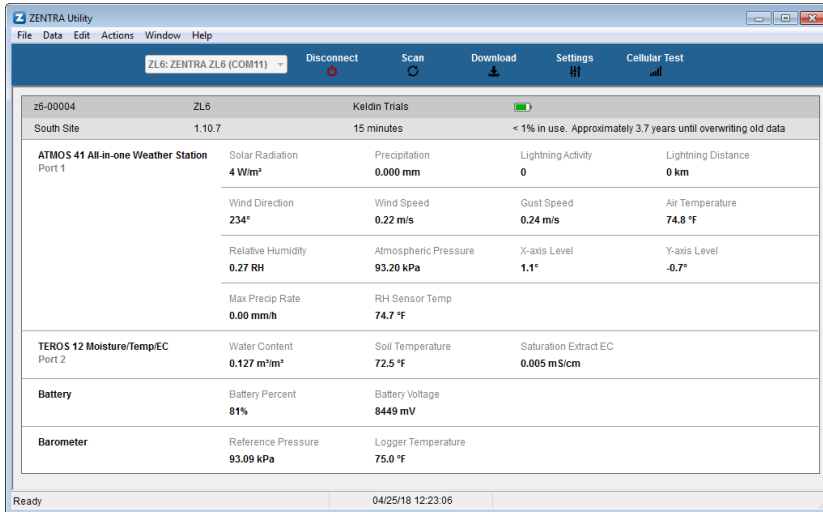

Figure 2 ZENTRA Utility showing a connected ZL6 and its instantaneous measurements
- Click the **Connect** button next to the **COM** port dropdown menu (Figure 2).
Once successfully connected, ZENTRA Utility displays the instantaneous sensor measurements from the ZL6 (Figure 2).